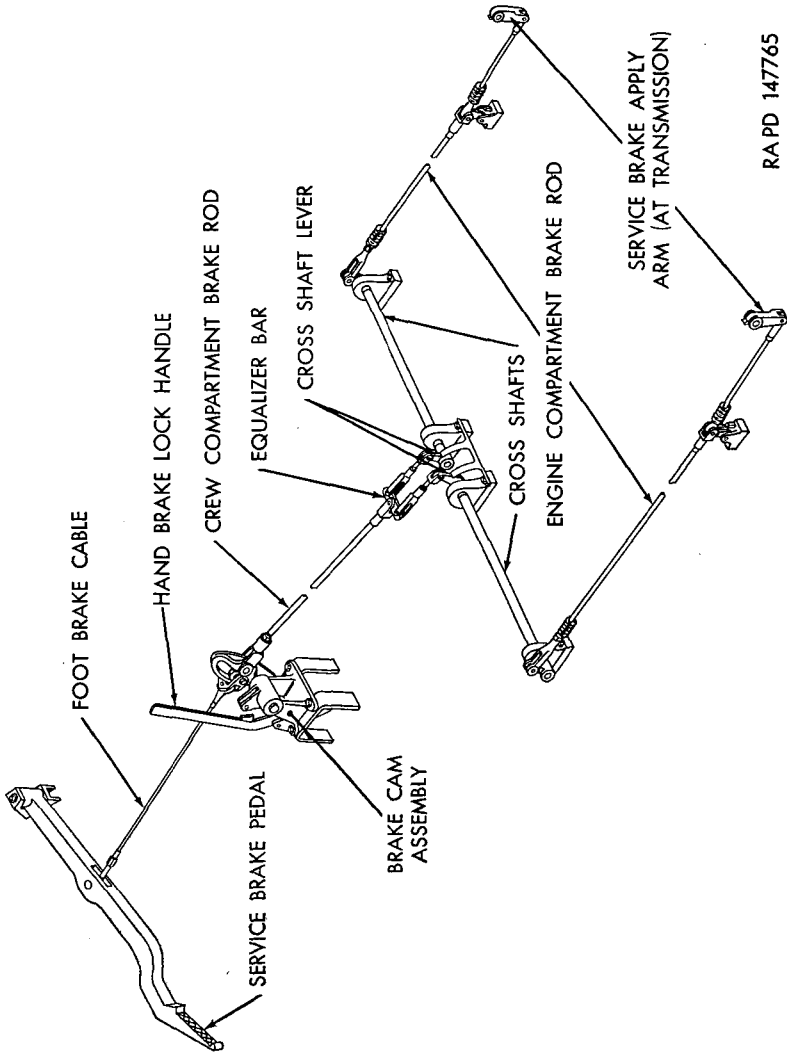

Figure 279. Service and parking brake controls and linkage schematic diagram.
- (2) *Installation.* Position brake cam assembly to supports on hull floor and secure with four screws. Connect foot brake cable to cable yoke with screw. Connect crew compartment brake rod to brake cam with clevis pin and cotter pin.
b. **ADJUSTMENT OF SERVICE BRAKE LINKAGE** (fig. 279). The service brake linkage must be serviced and adjusted to eliminate any play or looseness. Movement of the service brake pedal must be reflected in movement of the cable clevis on the brake cam; movement of the brake cam must be reflected in movement at the service brake apply arms on the transmission. Replace parts and adjust linkage rods or cables, as necessary, to eliminate looseness or play.
d. REPLACEMENT OF BRAKE CONTROL LINKAGE (fig. 279).